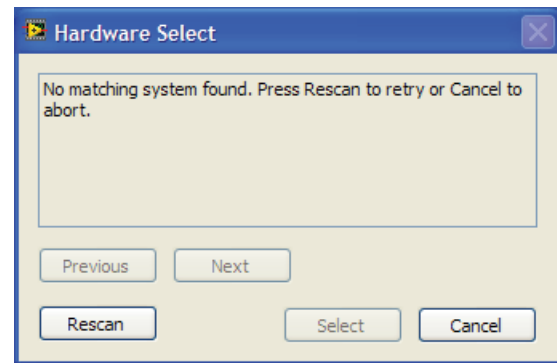

Figure 10. Pop-Up Window Error
2. If the SDP board is not connected to the USB port when the software is launched, a connectivity error is displayed (see Figure 10). Connect the evaluation board to the USB port of the PC, wait a few seconds, click **Rescan**, and follow the instructions.